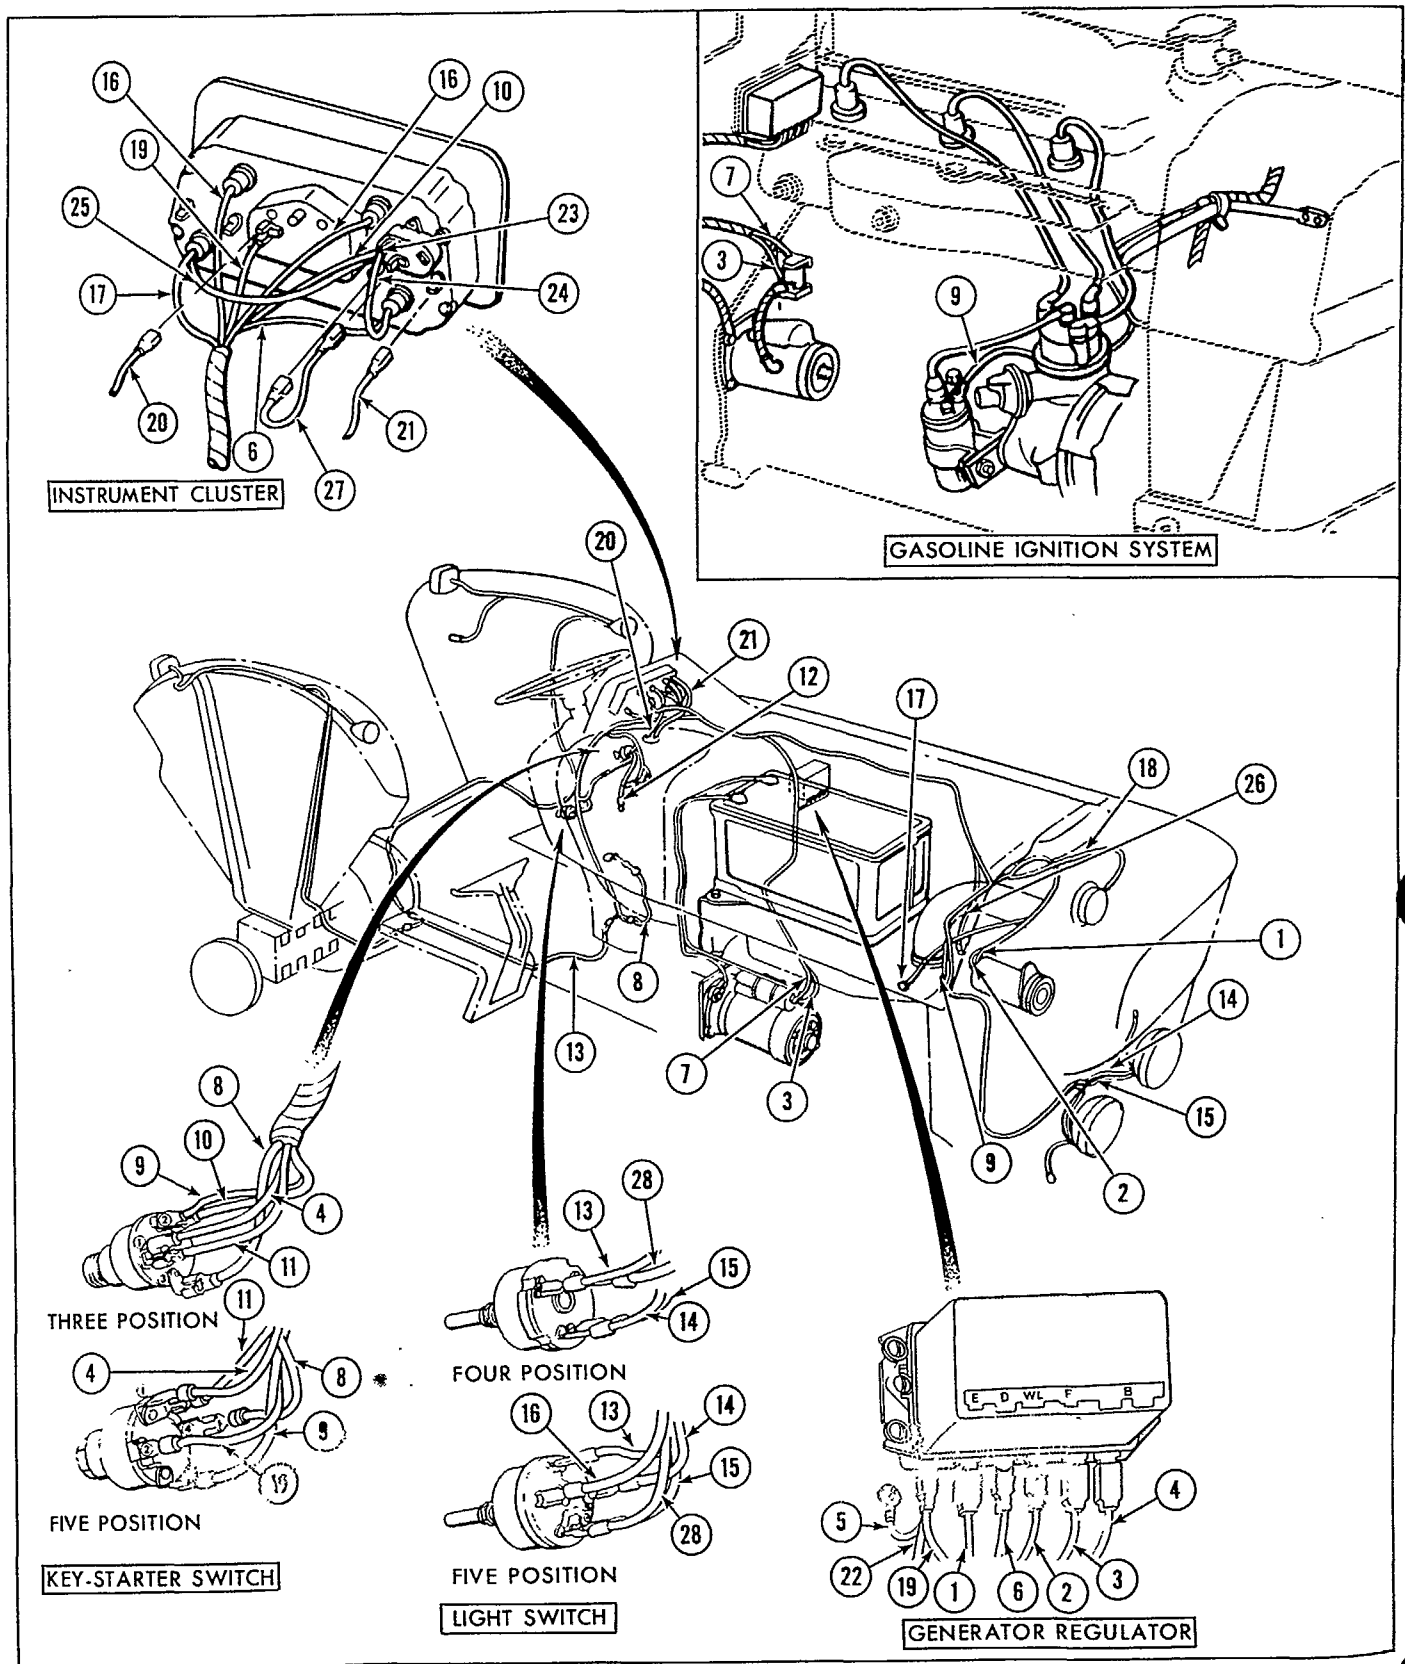
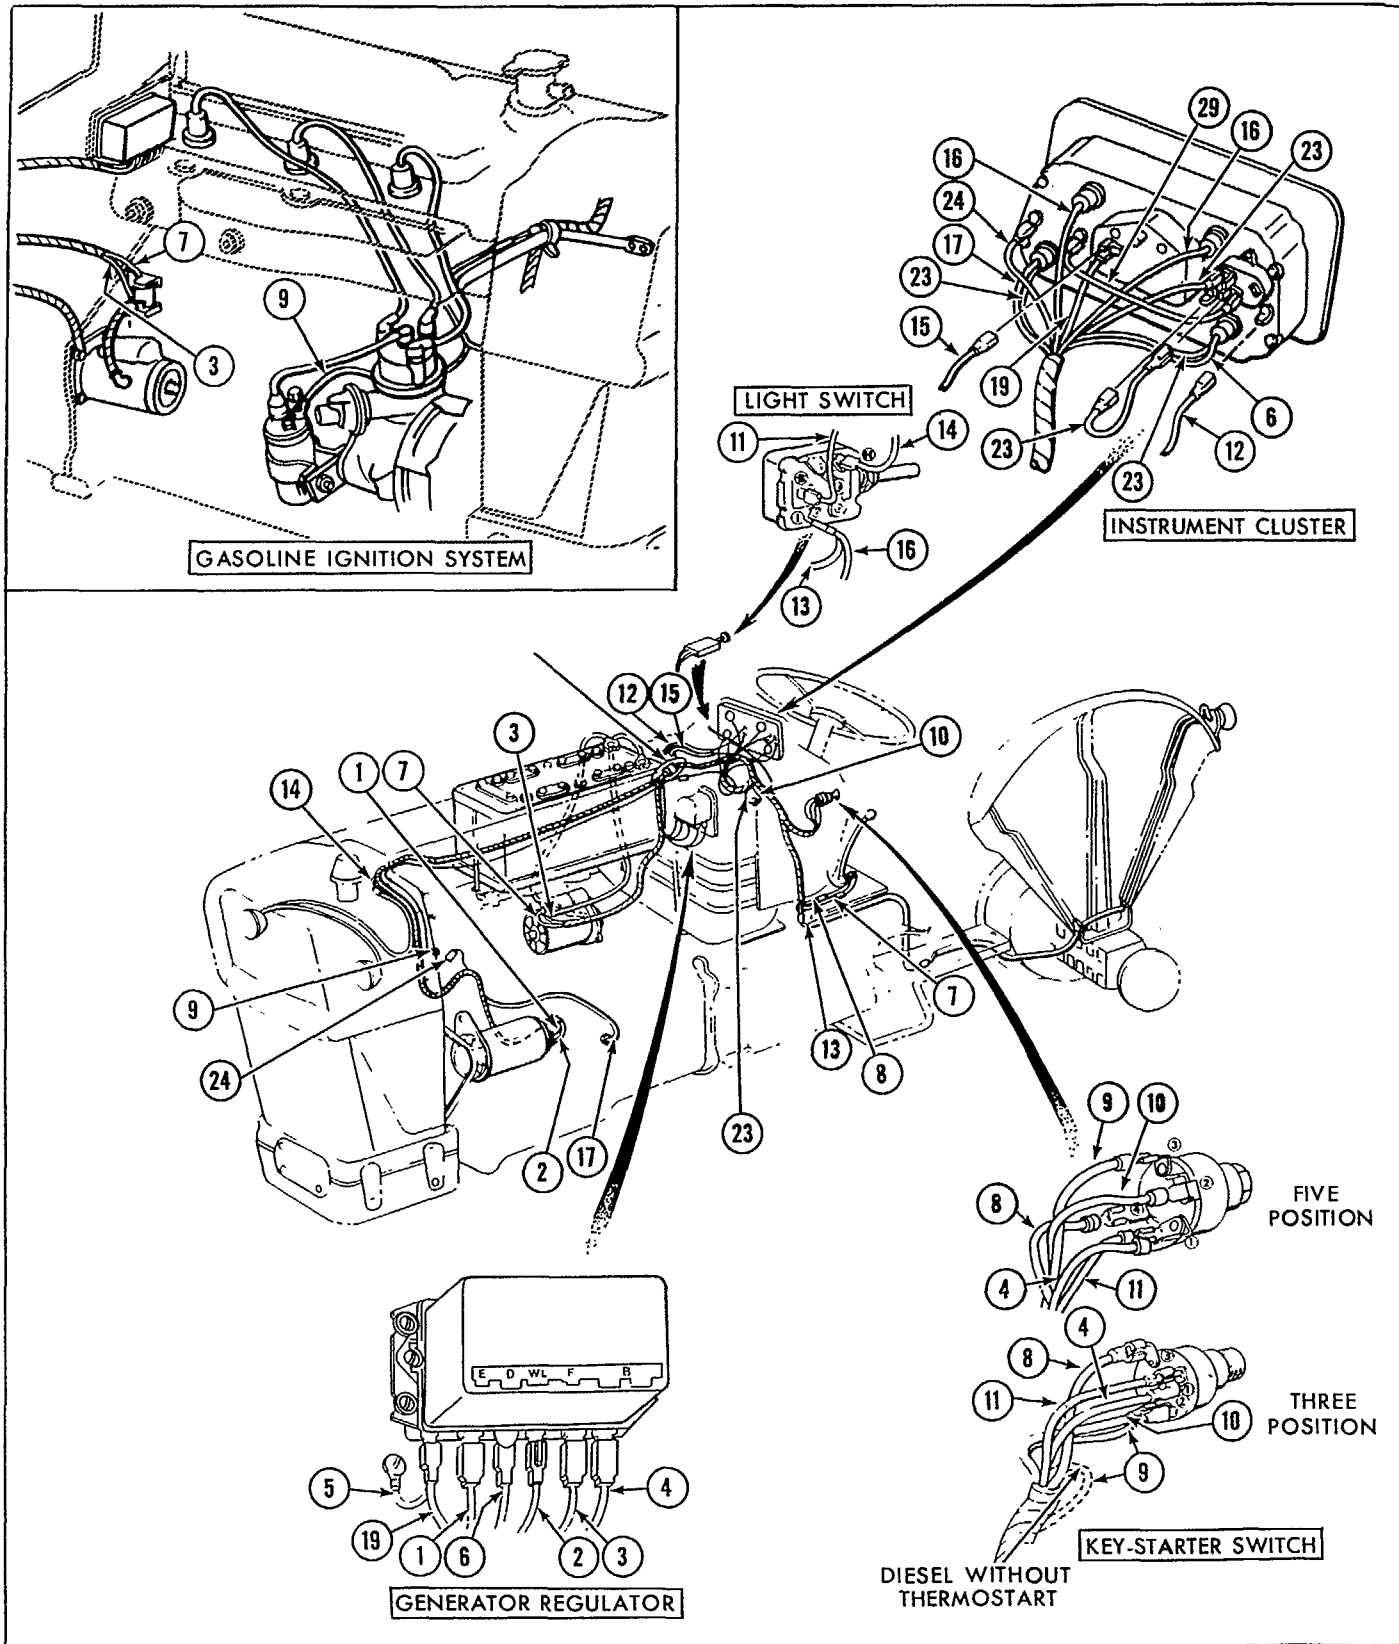

Figure 6
Figure 7
C Prefix Letter: Tractors with serial numbers prefixed with the letter "C" use a front and rear main wiring harness with a multiple connector located in front of the fuel tank, Figure 7. If lights are installed, a three-position push-pull light switch incorporating a circuit breaker is used. The headlamps are mounted externally on the radiator shell and one rear lamp is used on the left rear fender. The tractors are equipped with a 22-ampere generating system.
Figure 6 shows circuit descriptions for tractors with "A" or "B" prefixed serial numbers, and Figure 7 shows circuit description for tractors with a "C" prefixed serial number.
KEY TO WIRING CODES FOR FIGURE 6
KEY TO WIRING CODES FOR FIGURE 7
- Place the instrument cluster on the rear hood panel and connect the main harness connectors, warning light, and instrument panel sockets as shown in Figures 6 or 7. Connect the Proof-Meter cable. If it is difficult to connect the cable, first remove the cable from the generator then connect the cable upper end to the instrument cluster. Reconnect the cable to the gener-